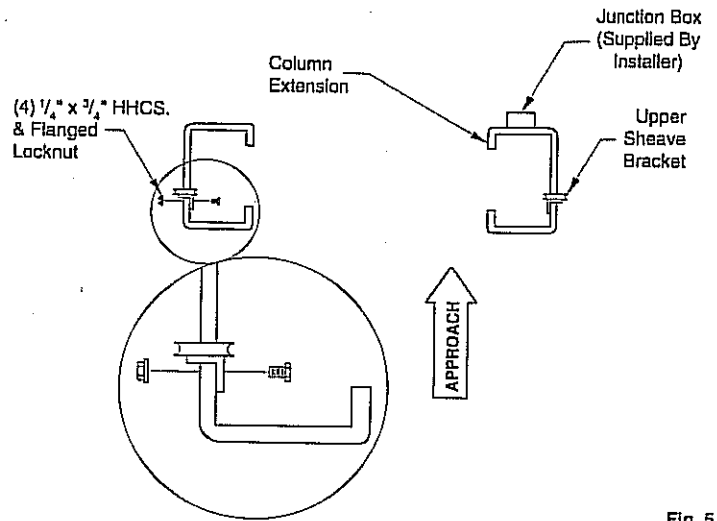

Fig. 5
5. While still on the ground, install left and right upper sheave brackets to column extensions with (4) 1/4" x 3/4" lg. Hex Cap Screw and Flanged Locknuts, Fig. 5.